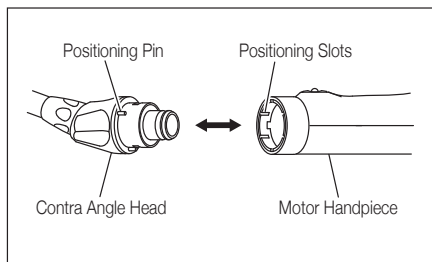

Fig. 7
(2) Changing Contra Angle Head
- When removing the contra angle head, pull it straight out. (Fig. 7)